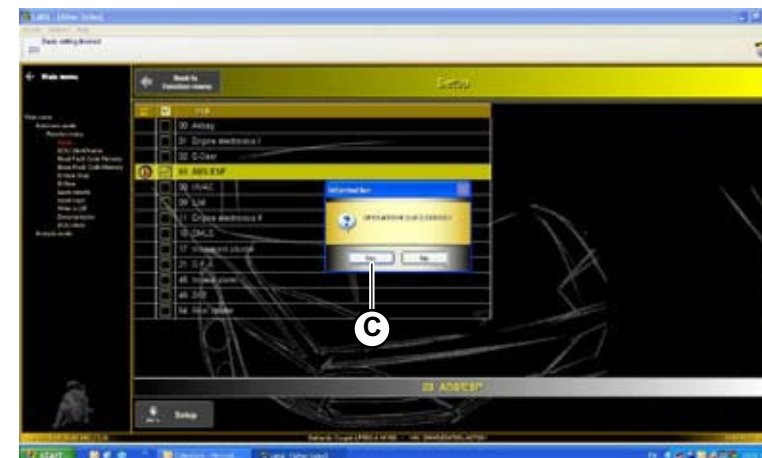

Fig.66
- Press YES (**C-Fig.66**) to continue.